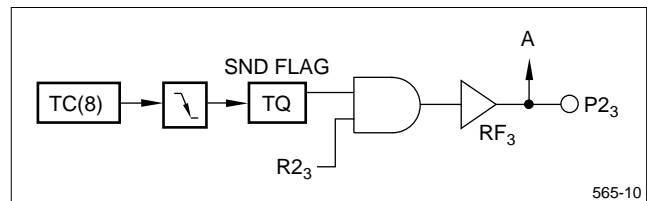

Figure 8. SND Signal
The count pulse Cp can be selected from divider signals f_{1n} and f_0 , and the system clock, by using the mode register RD. If the count register (TC) overflows, the SND flag reverses its status at the falling edge of the TC. A sound signal can be obtained at the TC output by putting P2 in output mode and sending a '1' to pin P2₃ (see Figure 8).